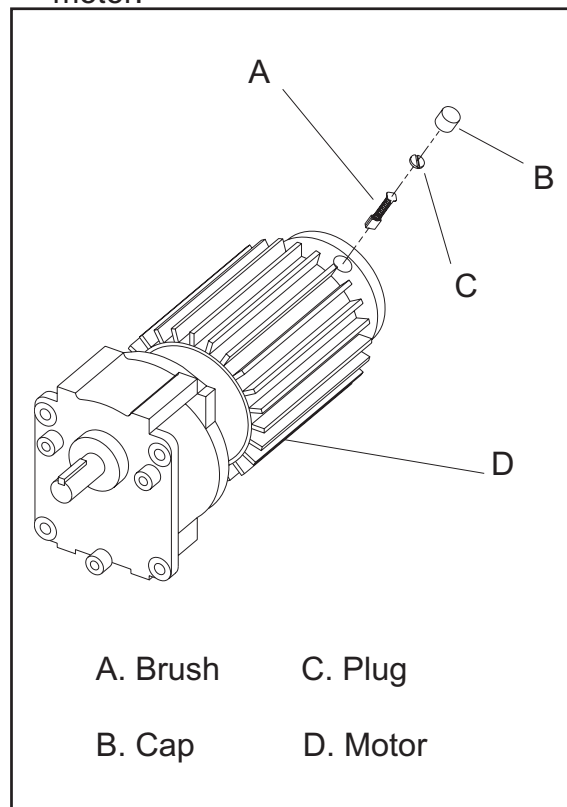

Figure 33. Replacing the Motor Brushes
4. Replace brush, see Figure 33.